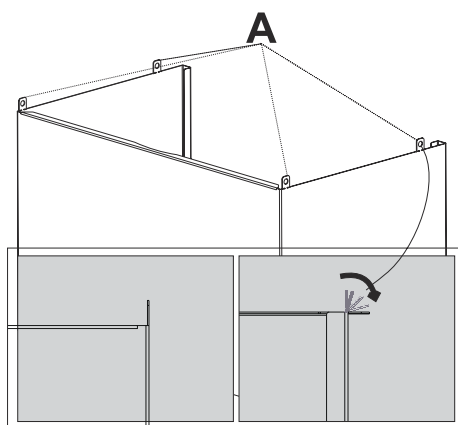

Fig. 16
- 6.** Pull the interior flue through the exterior flue. Interior flue has 4 mounting parts on it. Bend these interior parts outwards 90° (Fig. 16).